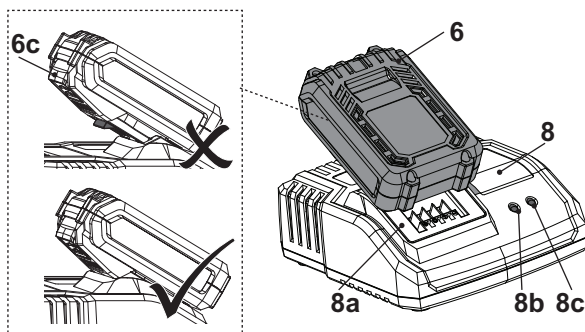

Fig. 5
2. Align the battery pack (6) to the charging slots (8a) and slide it until it locks in place (Fig. 5).
5. Keep the charger in position with one hand. Press the unlocking button (6c) (Fig. 5) and pull the battery pack out.